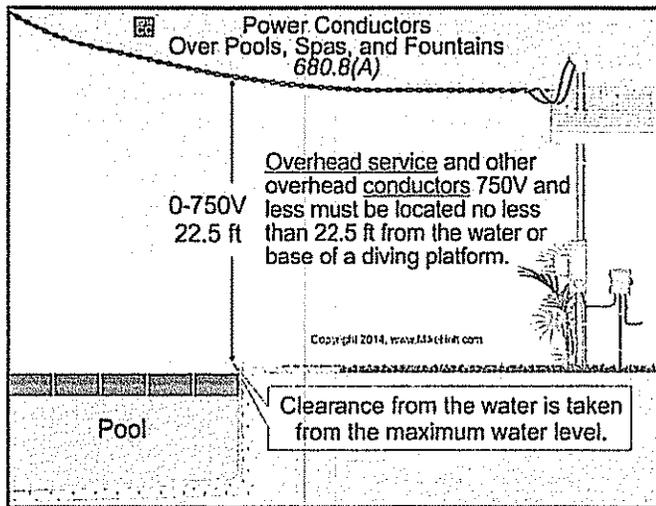

Figure 680-11
**(A) Overhead Power Conductors.** Permanently installed swimming pools, storable pools, outdoor spas, outdoor hot tubs, fountains, diving structures, observation stands, towers, or platforms near overhead service conductors and other overhead conductors must not be placed within the clearances contained in Table 680.8(A). Figure 680-11